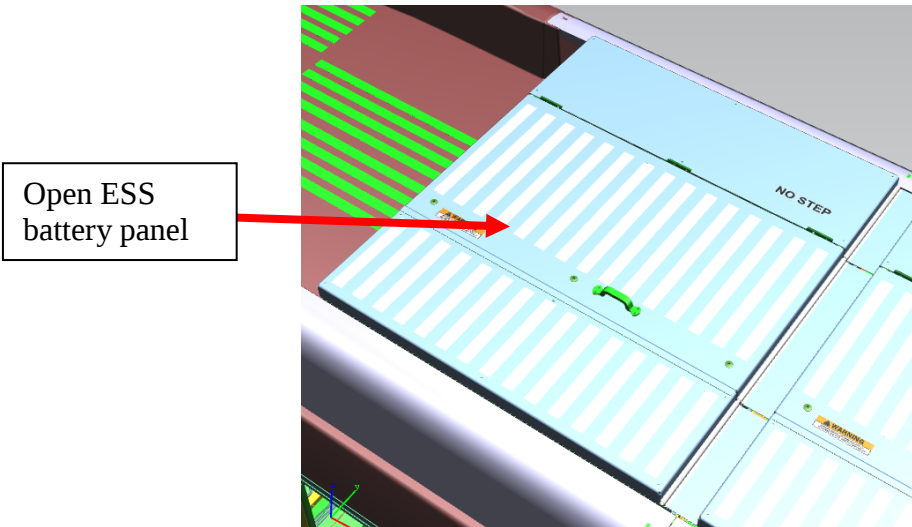

Figure 17: Front rooftop ESS
- 5.1 Locate the front and rear rooftop ESS and open ESS battery panel. See figure 17.